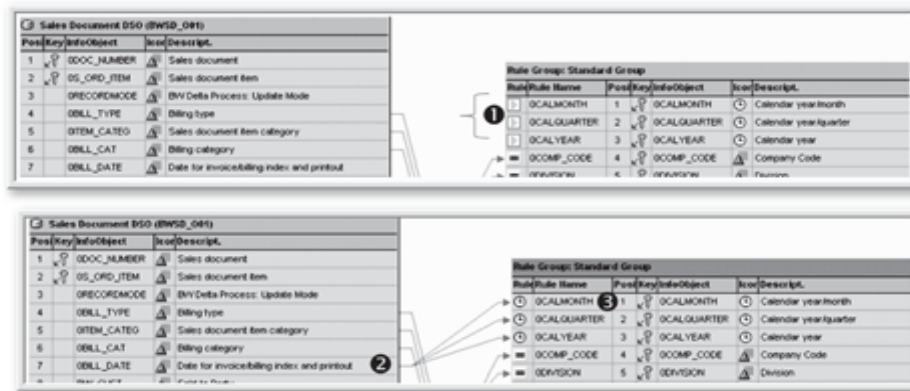

Figure 7.72 Time Conversion Transformation
As shown in ❶ of Figure 7.72, the system doesn't propose any transformations for the target InfoObjects because there are no matching source InfoObjects available; to fix this, you must associate OBILL_DATE with the three target InfoObjects
(OCALMONTH, OCALQUARTER, and OCALYEAR). Select OBILL_DATE (❷), and drop it over OCALMONTH. Repeat this process for OCALQUARTER and OCALYEAR. The result of these activities is shown in ❸ of Figure 7.72.